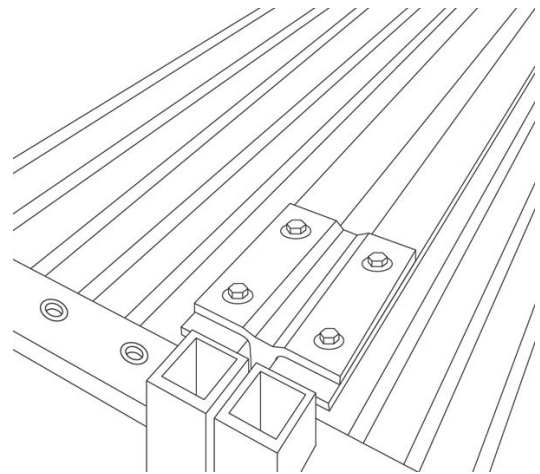

FIG 9
- iv) FIG 9 shows completed assembly. **CAUTION:** Although platforms are now connected, four support tubes must be installed per platform.